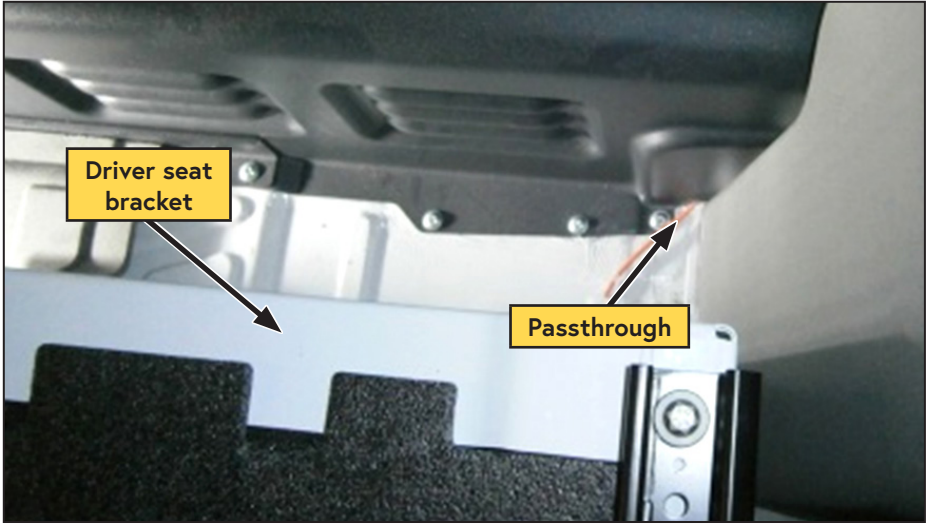

Figure 51 — Bulkhead passthrough
- Route the bundled harnesses through the pass-through in the bulkhead to the cargo bay (Figure 51).